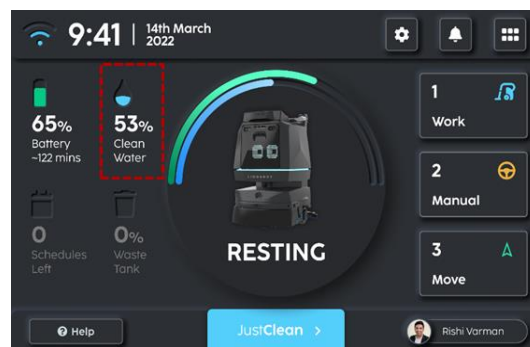

FIGURE 2-16
1. Check the clean water level (Fig. 2-16) on the touch screen attached to the R3 SCRUB PRO.